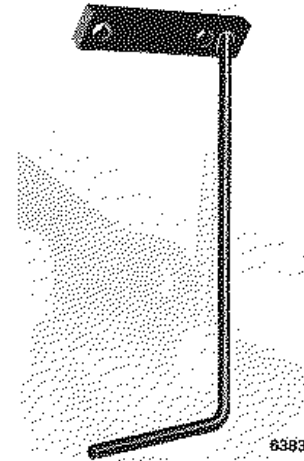

Fig. 5-9 - Fork Rod Support
39. Using a suitable lifting device, raise the piston and fork rod assembly and apply fork rod support, Fig. 5-9, to the outboard side of the fork rod using two basket bolts. Rotate crankshaft in normal direction so that support will rest in oil pan. Protect upper bearing and continue rotation to position blade rod for removal.
26. Using a suitable lifting device, raise the fork rod assembly and apply the fork rod support, Fig. 5-9, while holding the upper bearing shell in place.